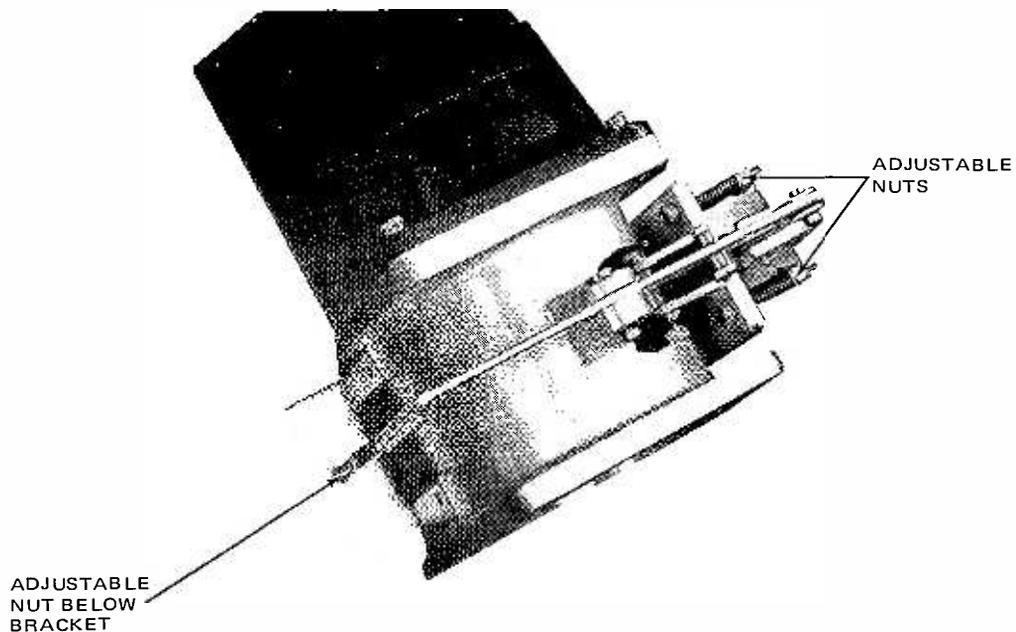

Figure 5-7. Takeup Reel Brake Assembly
2. Hold the scale parallel to the floor close to the reel hub, and pull the scale to unwind the cord from the reel hub (the takeup turntable will rotate ccw). The scale should indicate 1 lb 8 oz (± 4 oz). If necessary, adjust the nut on the takeup reel brake assembly (the nut is on the spring-loaded arm opposite the brake solenoid) to achieve this indication. Turn the nut cw to increase tension. See Figure 5-7.
9. Adjust the double set of spring-loaded arms (move both nuts equal distance) extending on either side of the brake solenoid (See Figure 5-7) to change the tension. Repeat step 8.